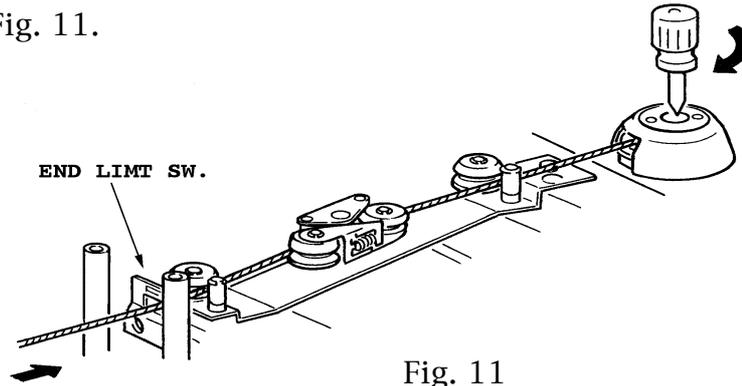

Fig. 11
- Carefully wind every loose wire until the END LIMIT switch turns ON. Refer to Fig. 11.